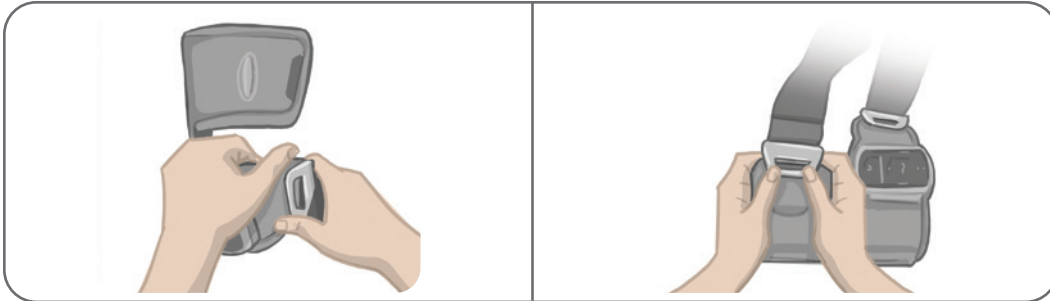

Figure 11-3: Removing the Thigh Straps
1. Push the attached thigh strap buckle toward the Thigh Cuff while making a twisting motion. See Figure 11-3.